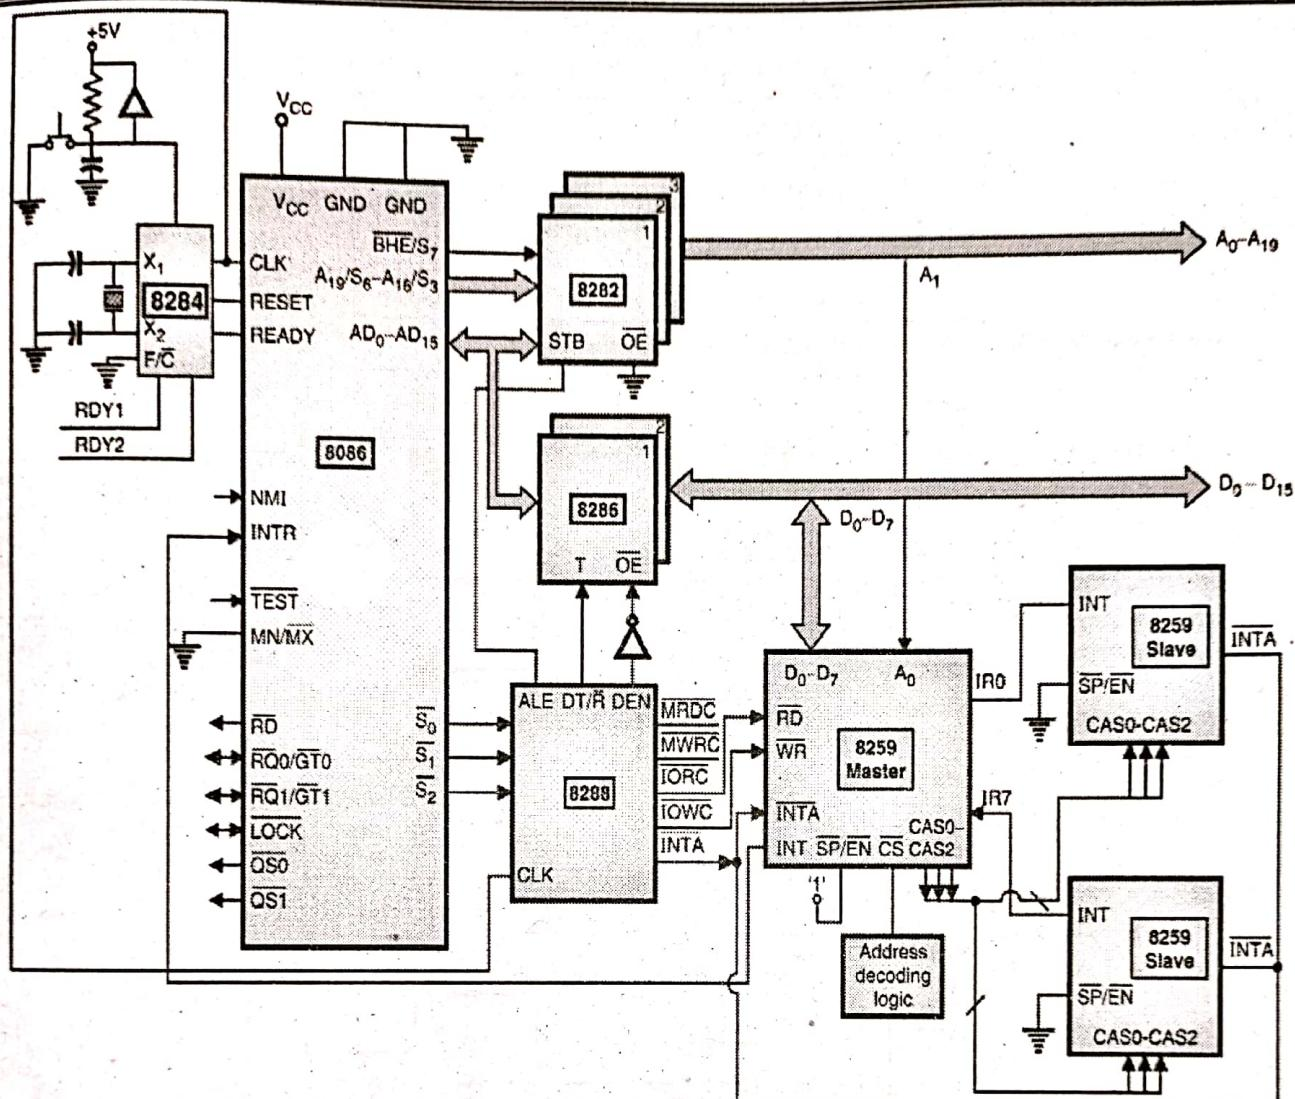

Fig. 1- Q. 5(b) : Interfacing 8259 with 8086 (8259 – cascaded, 8086- maximum mode)
- The CAS2 – CAS0 lines work as output for the master and input for the slave. Fig. 1-Q. 5(b) shows cascaded 8259 interfaced with 8086 in maximum mode.
The block diagram of 8255 is as shown in Fig.1-Q.3(b).